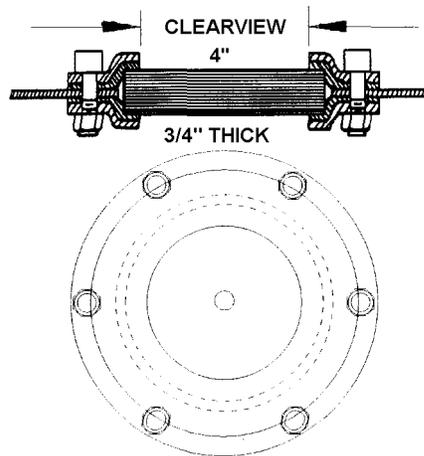

Figure 1-17. Fixed Light
- r. Fixed Lights. (See figure 1-17.) These lights are 4 inches in diameter and are provided in doors to pilothouses, airlocks, supply department offices (disbursing), flammable liquids storerooms, and flammable liquids issue